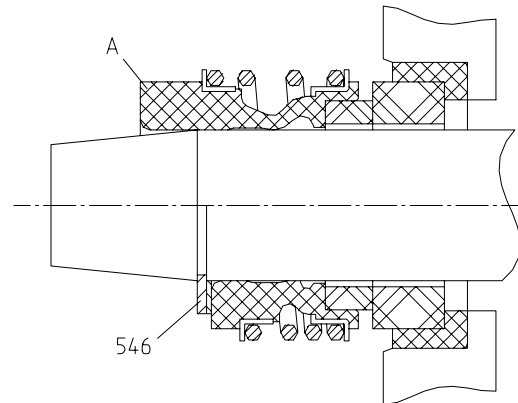

Fig. 10
**c) Rubber-bellows seal, external spring - type "G" (Fig. 10)**